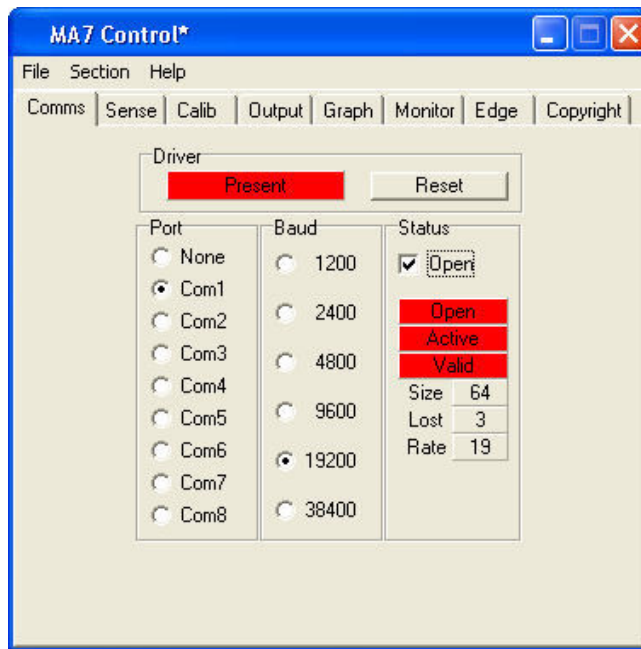

Fig 2
6. When the driver recognizes the screen, the **Open**, **Active** and **Valid** boxes will go red (fig 2).